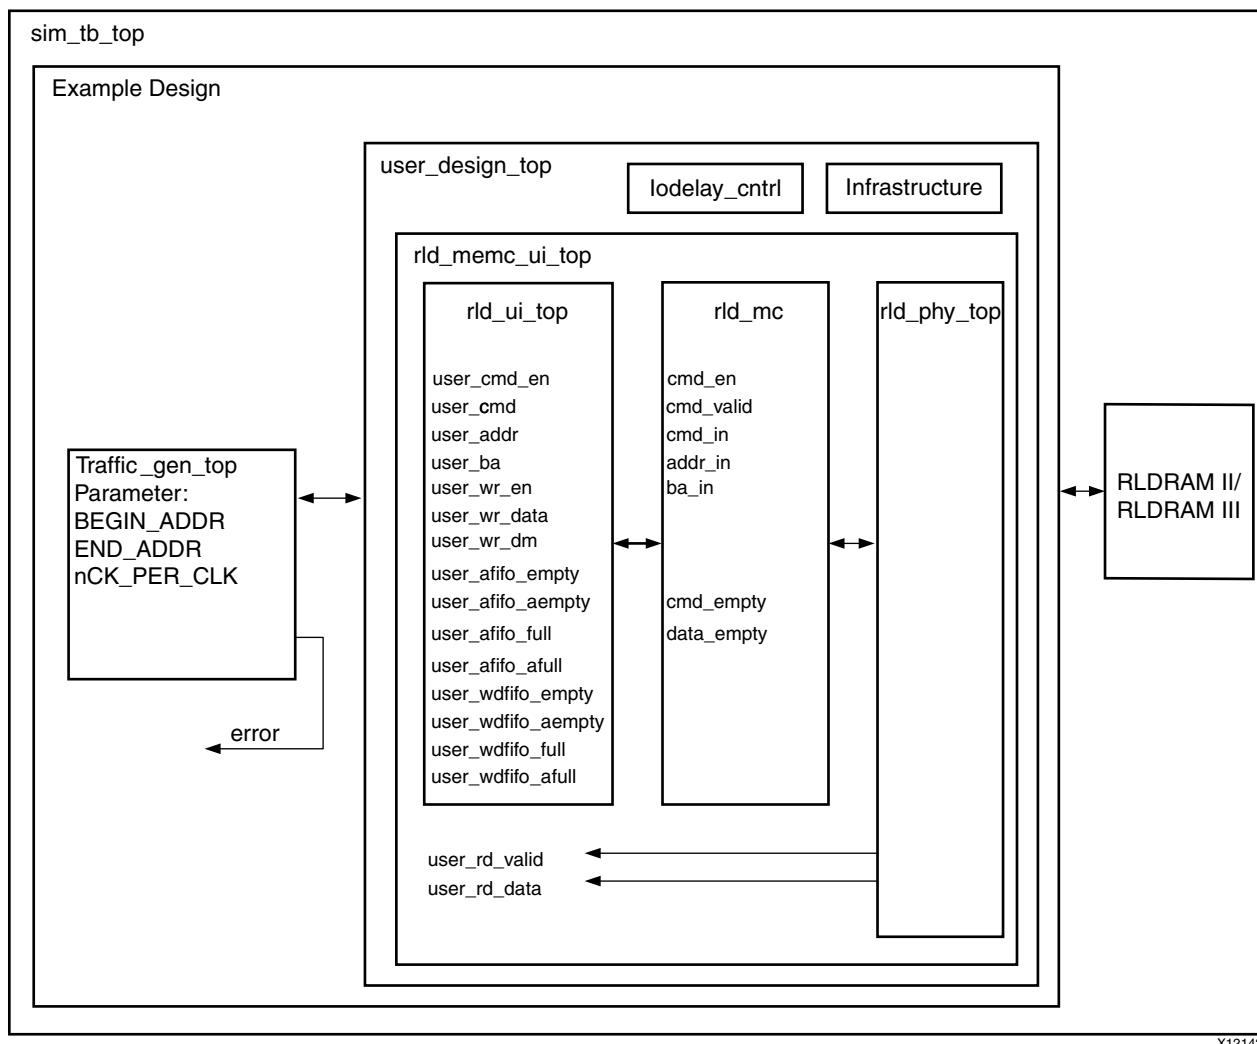

Figure 3-19: Synthesizable Example Design Block Diagram
The MIG tool provides a synthesizable test bench to generate various traffic data patterns to the memory controller (MC). This test bench consists of a `rld_memc_ui_top` wrapper, a `traffic_generator` that generates traffic patterns through the user interface to a `rld_ui_top` core, and an infrastructure core that provides clock resources to the `rld_memc_ui_top` core. A block diagram of the example design test bench is shown in Figure 3-19.